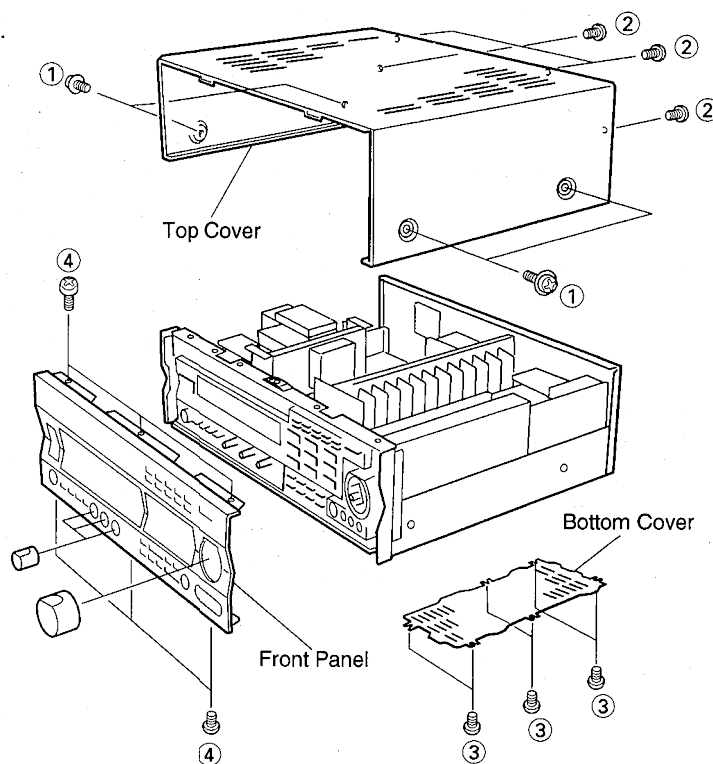

Fig. 1
- a. Remove 4 screws (①), and 4 screws (②) in Fig. 1.
- a. Remove 6 screws (③) in Fig. 1.
b. Remove 6 screws (④) in Fig. 1.